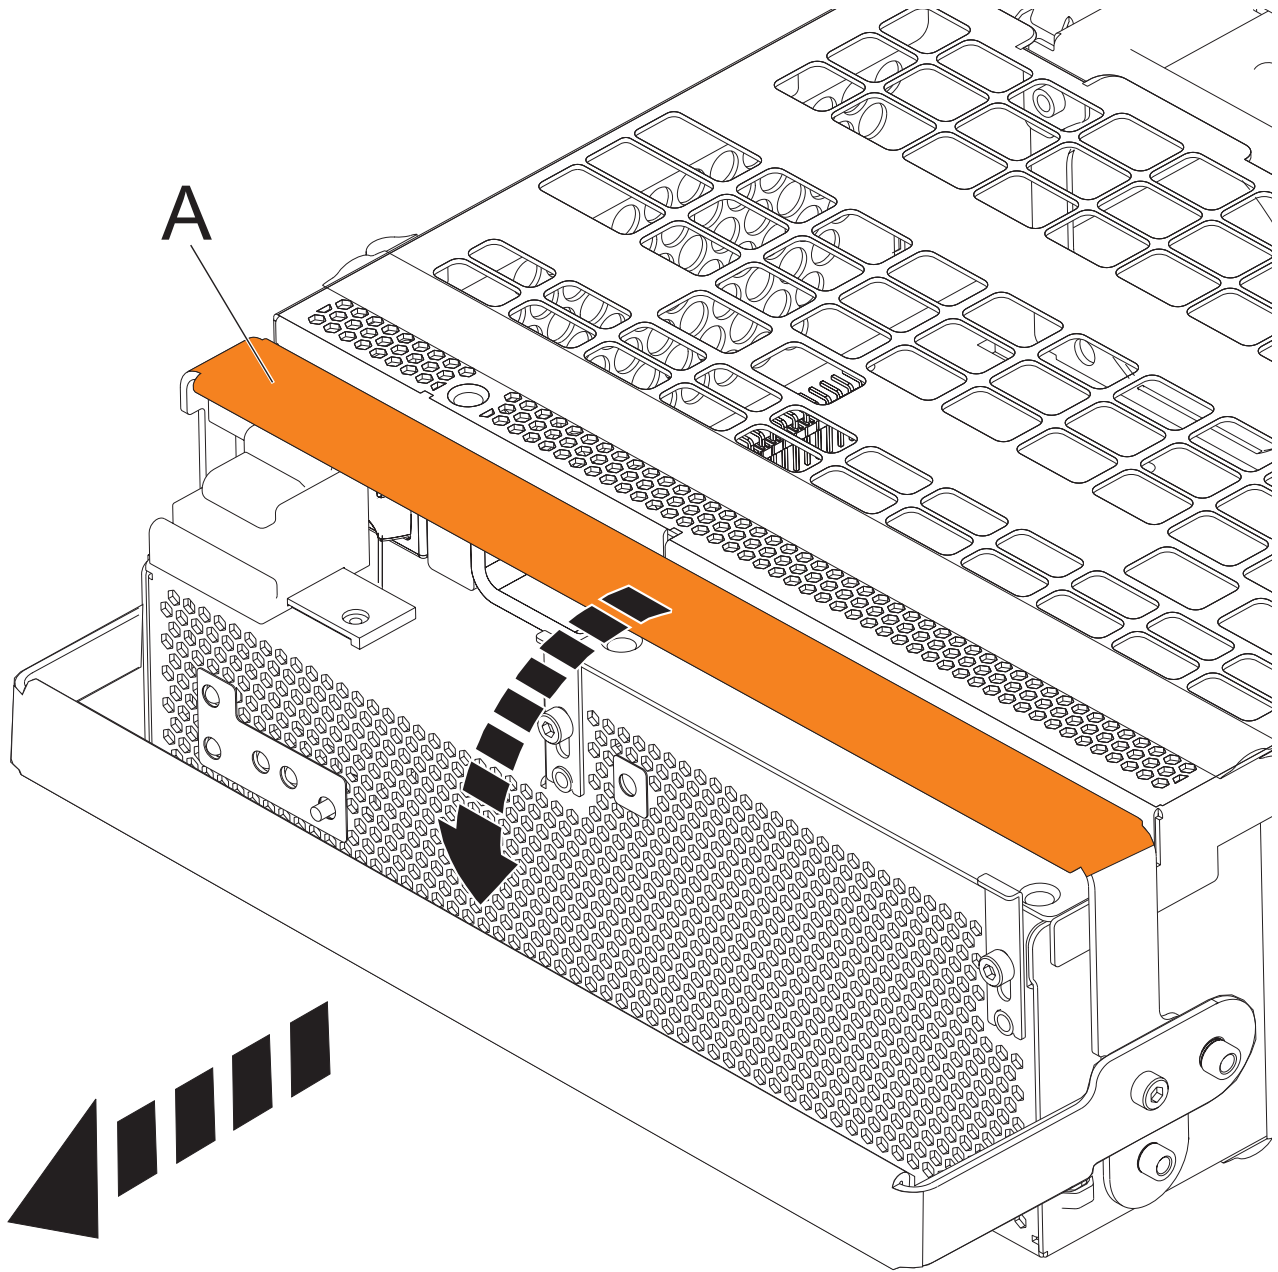

Figure 96. Remove the offline converter assemblies
- a. Pull the OCA handle (A) all the way down in the direction shown to unseat the OCA. See Figure 96 on page 125.